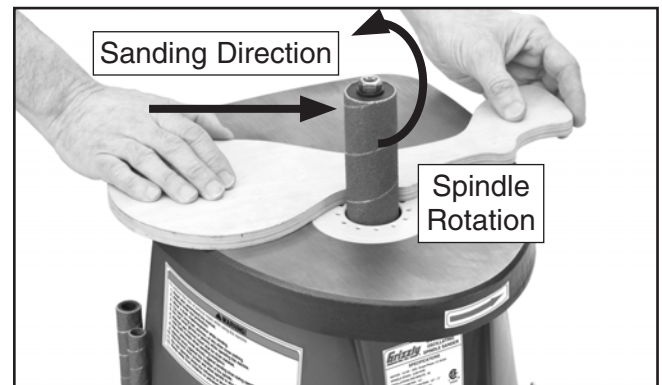

Figure 14. Sanding workpiece.
2. Using both hands to maintain control of the workpiece, guide the workpiece against the rotation of the spindle, as shown in **Figure 14**. DO NOT force the workpiece against the sanding sleeve. Allow the machine to do the work.